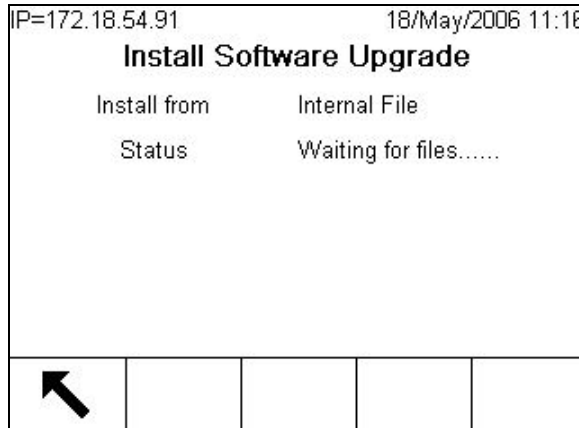

Figure 3-3: Firmware Upgrade – Waiting for Files
7. Press the START softkey \blacklozenge to perform the upgrade. If the files are not present in the Upgrade folder, the screen shown in Figure 3-3 appears. Performing the